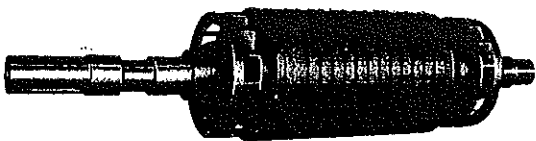

Figure 3. D II Rotor
1.2.2 Induction motor rotors - The rotor consists of the shaft, the core, and the windings. (FIG. 3)